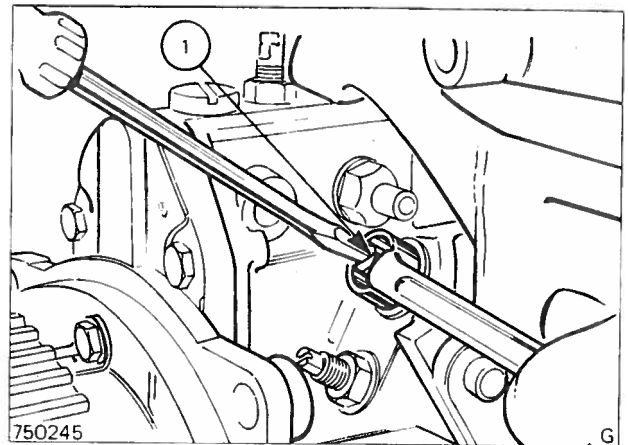

Fig. 33 Adjusting the maximum speed screw
2. Set the governor control lever to the maximum speed position and slowly increase the calibrating machine speed. Note the speed at which the injection pump control rod starts to move. Refer to page 23. Adjust the maximum speed stop screw if incorrect, Fig. 33. Screw the maximum speed stop screw in to reduce the speed and out to increase.